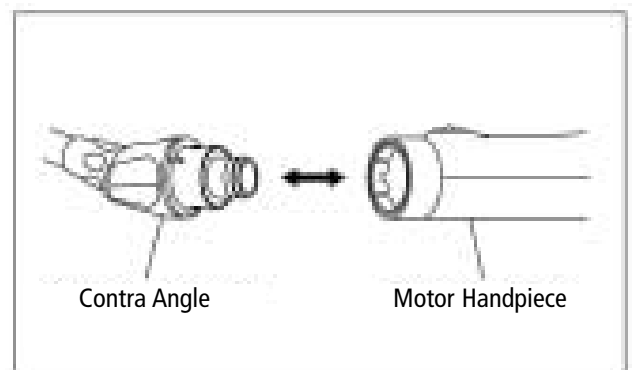

Fig. 7
- When removing the contra angle head, pull it out axially. (Fig. 7)